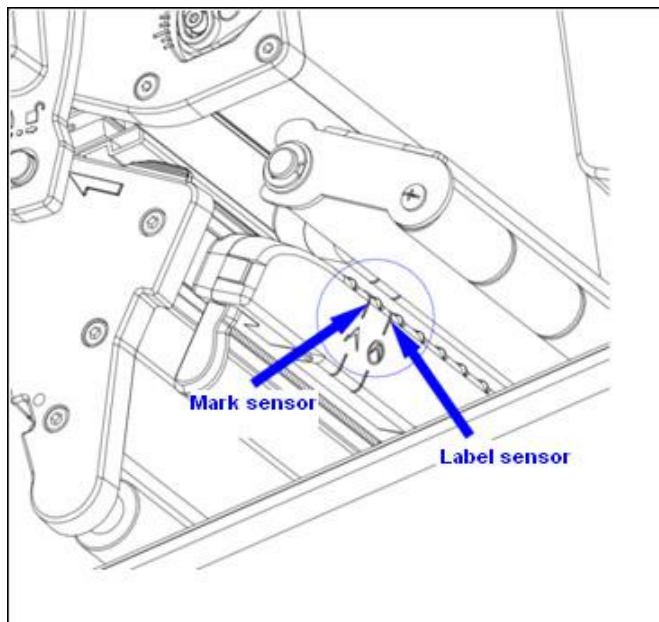
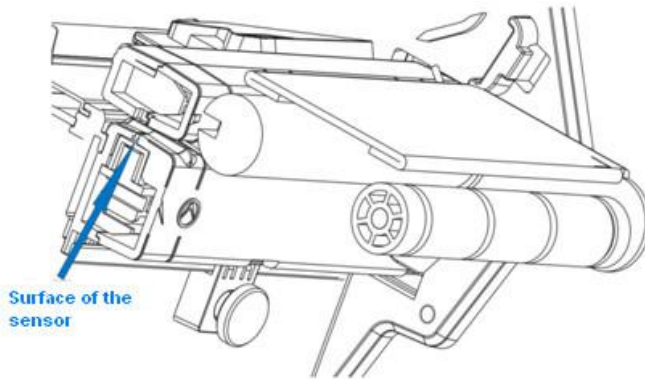

Fig. 4.2.1
Fig. 4.2.2(Sectional view)
- 3) Wipe off the dust and stains on the surface of the transmissive sensor (refer to Fig.4.2.1 and Fig.4.2.2) with alcohol cotton ball (it should be wrung out);